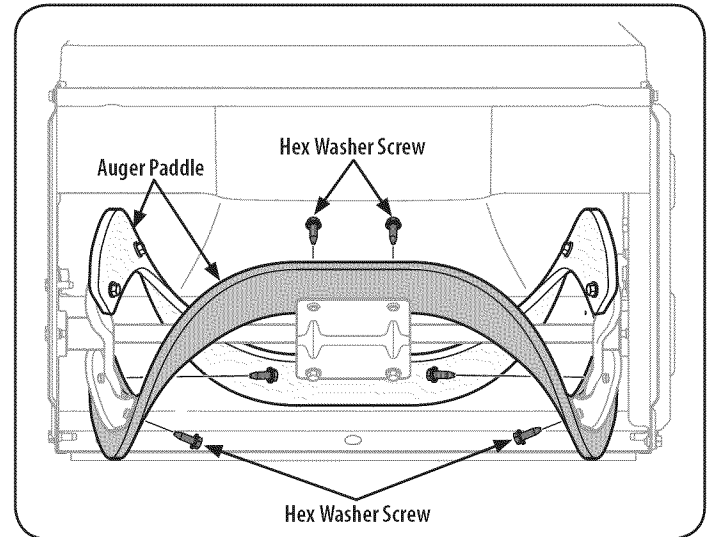

Figure 19
To change the rubber paddles, proceed as follows and refer to Figure 19:
3. Remove the existing rubber paddles by unthreading the hex washer screws which secure them to the auger. See Figure 19.